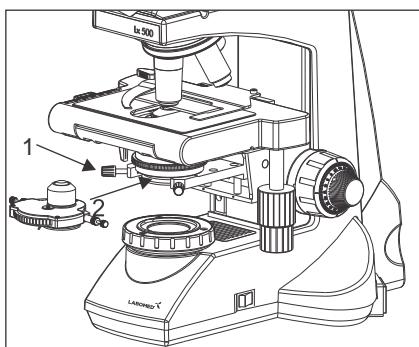

Fig. 6
1. Remove the condenser from its position by loosening the two thumb screws (1) on both sides of the condenser as shown in figure 6.
3. The long “push in to engage” thumbscrews (2) on both sides of the phase turret are provided for proper alignment of the phase ring. By disengaging these screws, the phase turret can be adjusted at any desired phase annulus (10x, 20x, 40x & 100x) by turning the thumbwheel to the desired position. There is also an ‘0’ setting on the thumbwheel for bright field application